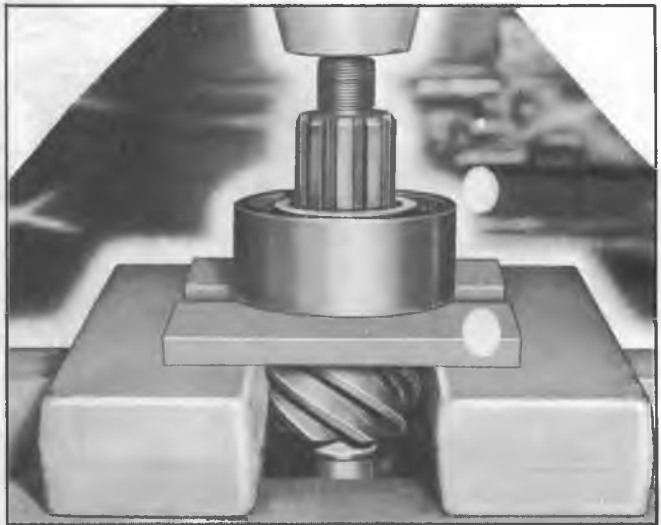

Fig. 6G—Drive Pinion Front Bearing Removal (11,000 Lb. Axle)
7. On the 11,000 lb. axles, position drive pinion in an arbor press so that the bearing is supported by two pieces of flat steel stock as shown in Figure 6G. Place flat stock parallel to each other and against pinion so as to pick up a large area of bearing outer race. Press pinion from bearing making sure pinion is supported to prevent damage when removed from bearing